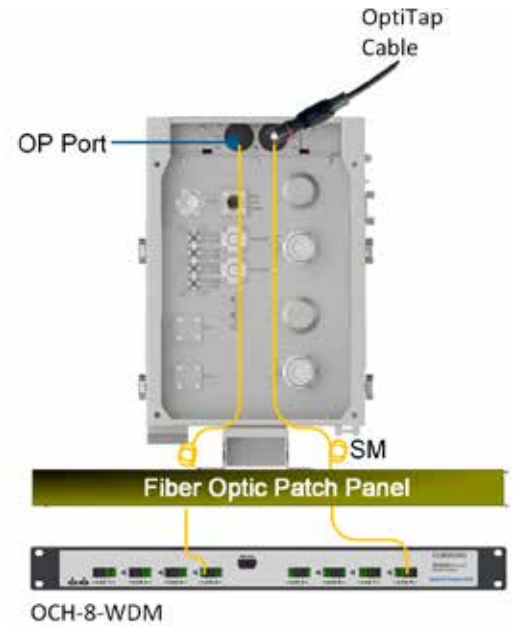

Figure 13. GX Fiber Connection (MIMO)
IMPORTANT! MIMO units require two fiber connections, where each one must be connected to a different optical module, as shown in Figure 13.
- Step 2.** Referring to Figure 13, connect OptiTap cable to splice box and to the GX OP OptiTap port.